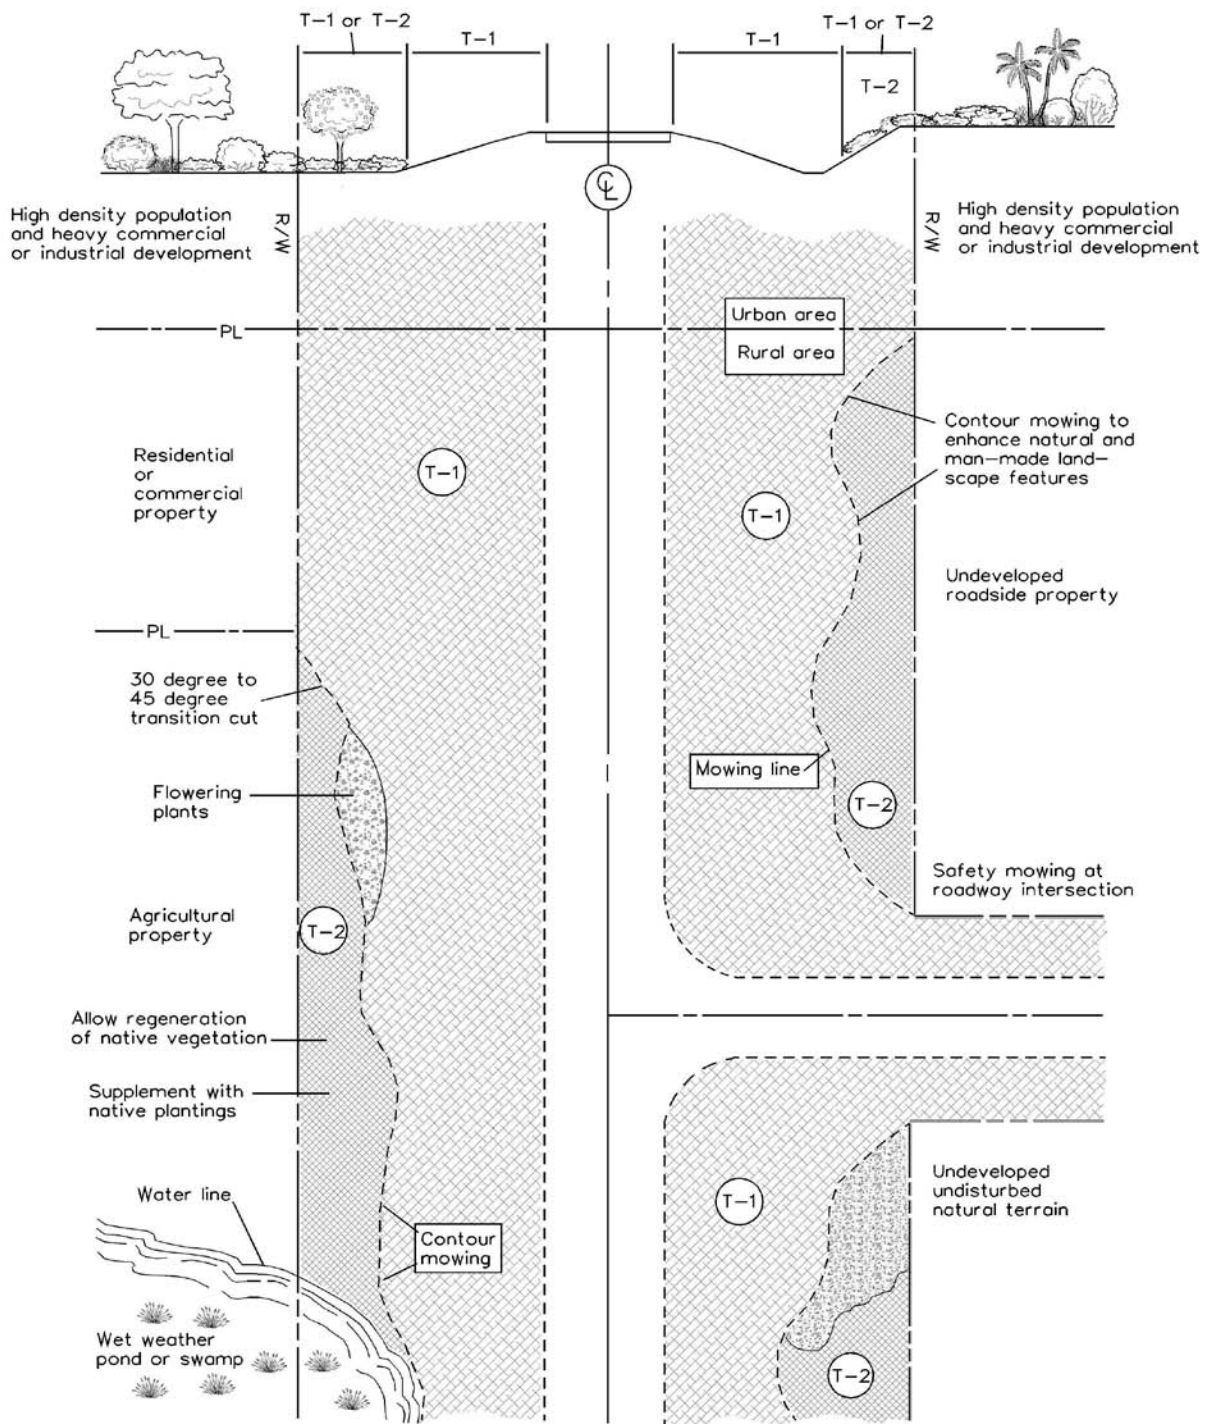

Figure 18. Mowing Plan (Arterial Roads Only)
Urban-area mowing includes areas from city limit to city limit and all areas adjacent to property having a high density population and heavy commercial or residential development (Figure 18).
- g. **Flowering plants.** Desirable flowering plants should not be mowed, treated with herbicides, or otherwise disturbed during their growing, blooming, and seed-ripening seasons. Periodic mowing may be required at other times to promote or assure regeneration of the flowers. Transitions from routinely mowed areas to adjacent flower sites should be made in a smooth manner to create a pleasing effect (Figures 18 and 28).